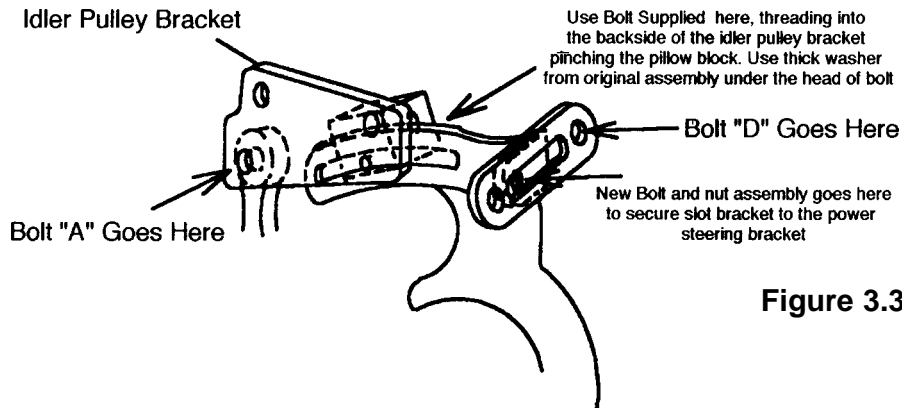
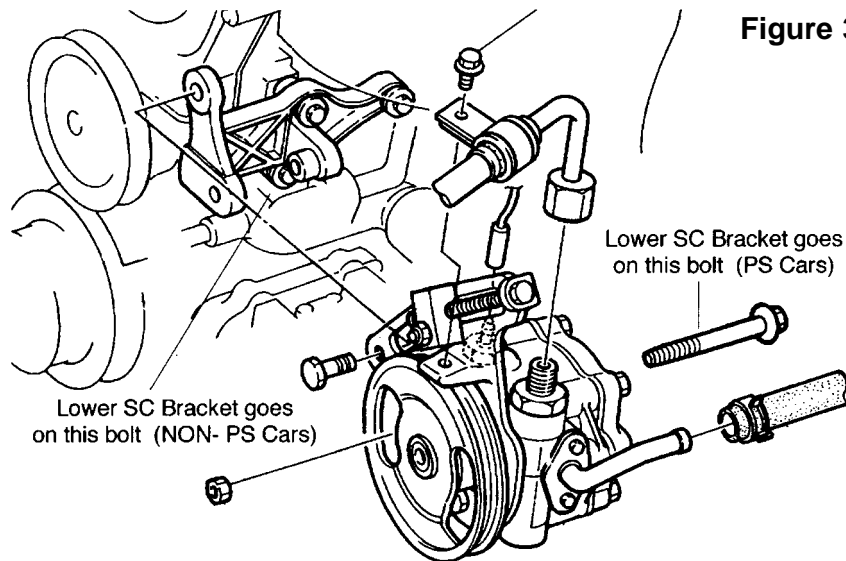

Figure 3.3
Figure 3.4
3.2 When you are done with your trial fitting of the flat idler pulley bracket, take this flat bracket to a workbench and install the two plastic idler pulleys using the bolts and nyloc nuts provided. Make sure that the bolts point towards the front of the car. Secure the idler pulleys firmly to the flat bracket. Proceed to install the idler pulley assembly onto the car per the procedure practiced during the trial fitting. The final assembly (minus the pulleys) should look like figure 3.3. **VERY IMPORTANT: MAKE SURE THAT THE DRIVER'S SIDE IDLER PULLEY IS FREE TO SPIN. THE PINCH BOLT THAT YOU INSTALL THROUGH THE PILLOW BLOCK FROM THE**
hold the rear hex head with a 14-mm box wrench. Remove the (Figure 3.3 & Figure 3.4) nut and the long bolt (item "B" in figure 3.1). The bolt will retract rearward underneath the exhaust manifold.
Locate your lower bracket assembly from the kit. The end with the small 90 degree bracket mounts to the idler bracket (standard on AC equipped cars) or to new idler bracket (supplied with kit for non-AC, non-PS cars). Use the new, longer 10-mm bolt provided to attach this bracket to the engine (Review figure 3.4 for bolt location).
To install the supercharger belt drive in your particular situation, follow the instructions as outlined in the installation manual except for section 3.0 on Belt Drives. Since you do not have a power steering bracket to attach your lower bracket to, you will use special bracketry that we have included with your kit. Turn to figure 3.4 in the installation manual and find the note describing the bolt that will be used for the non-power steering car's lower strap bracket anchor. The Mazda idler pulley set-up for your four-rib belt has a cast iron bracket that is bolted to the engine block. This bracket
is held on by three large bolts. The lower bolt of the triangle pattern will be the one you attach our “L” bracket to. It is in the position noted in figure 3.4. This is where you will attach the small “L” bracket to the engine block using the new M10 x 50 fine thread bolt we provide. The lower strap bracket can then be attached to this “L” bracket, supporting the outside of the supercharger. For the belt drive, please remove all the adjustment hardware from the cast iron Mazda idler bracket (the idler pulley, the special mounting bolt, the vertical adjustment bolt, etc.). You will be left with just the naked iron bracket on the engine. Using the 2.5” diameter plastic idler we provide, and the M10x50 bolt, washer and nyloc nut, mount the plastic idler to the front of the Mazda cast iron bracket. Make sure to put the washer under the bolts head and to aim the bolt toward the radiator (see diagram above). Run the belt over the crank pulley, under the idler pulley, over the supercharger and around the air conditioning compressor. Push the plastic idler Downward and tighten its center bolt to properly tension the four-rib belt. If you are careful, a screwdriver can be placed in the cast iron brackets vertical slot to lever the plastic pulley downward. This will help you get the proper tension on the belt. You should have less than 1/2 inch deflection on the longest run of the belt. If you find the belt to fit too tightly, gently rock the car in fourth gear while pressing the belt onto the pulley. Watch out for your fingers.
per figure 3.4 to achieve correct belt tension. The longest run of the belt should not deflect more than 3/8 of an inch when pressed down with around 22 pounds of thumb pressure. The tension specification is 90 pounds. Re-tighten the pillow block pinch bolt, idler bracket bolt, and the power steering pivot bolt. An easy check for proper belt tension is done by listening to your belts during warm up. If turning the steering wheel with the air conditioning on creates a squeal, then the tension is far too loose. In general, only a slight amount of black dust should appear around the super-charger nose when the tension is correct. Heavy dusting indicates excessive belt wear from a loose belt. Check your tension again after the first 500 miles - it will loosen slightly as the belt wears in. NEVER ATTEMPT TO ADJUST THE BELT WITH THE ENGINE RUNNING! Re-tighten all bolts and double-check your work.